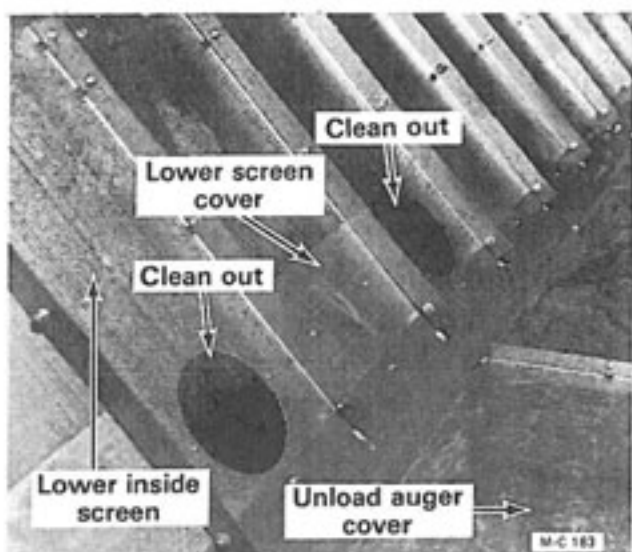

Figure 26
- C. There is a clean-out in every lower inside screen. Remove all lower screen covers, see Figure 26. After the frozen grain has been loosened reinstall the lower screen covers and close the dryer rear door.